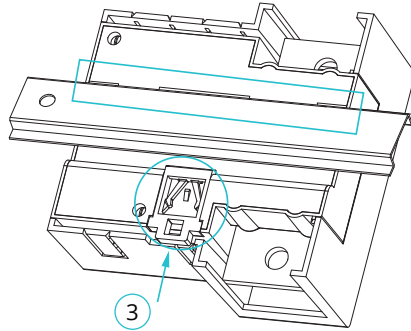

Figure 2-4 Insert Clip Lock to Secure the AcuDC-301
3. Release the clip lock back up ③ to secure the AcuDC-301 onto the DIN rail, as illustrated in Figure 2-4.